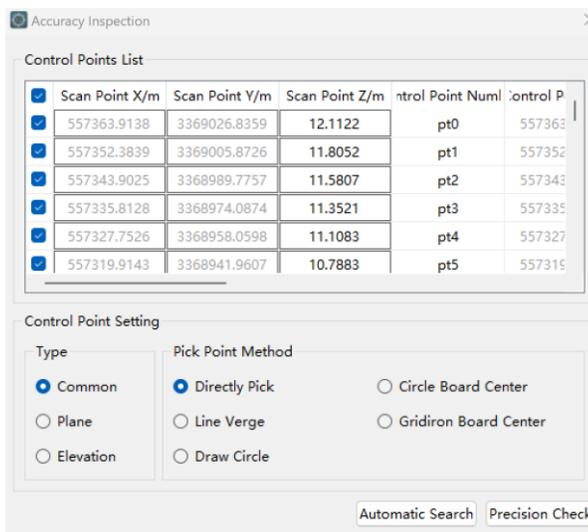
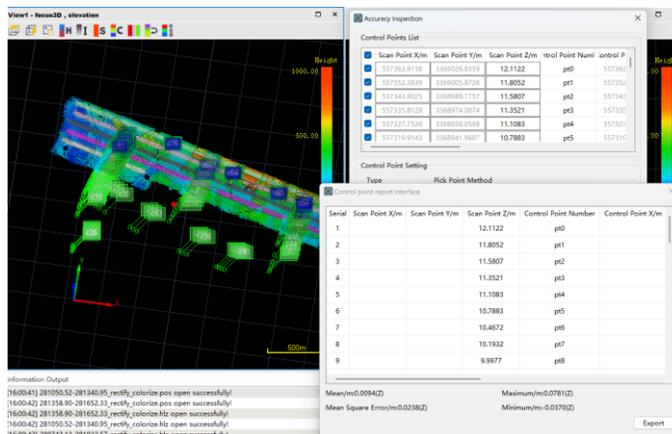

Figure 3-74 Starting point selection
Figure 3-75 Accuracy Inspection
- (1) Click "Accuracy Check" to open the magnifying glass view for point selection. Left-click to select the matching scanning point for each control point.
- (2) After the scanning point is successfully selected, the right side of the control point in the control point list will be filled with the corresponding scanning point (Figure 3-74).
- (3) If you are not satisfied with the selection, re-locate or manually adjust the scanning point coordinates and press Enter to confirm.
- (4) After selecting all scanning points, click "Display Results" to calculate data accuracy (Figure 3-75).